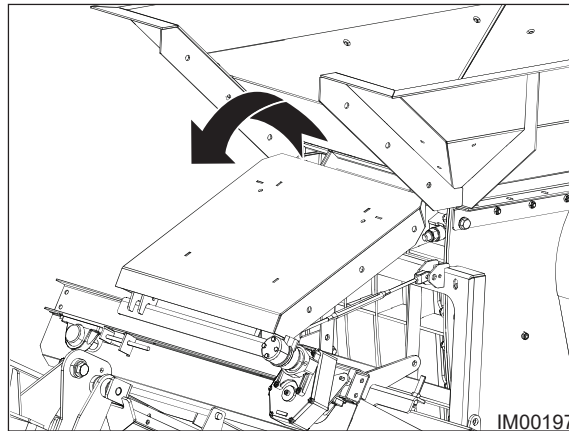

Fig: 10.2 - Crusher Hopper Transport Panel
2. Using suitable lifting equipment, or suitable work platform, with the aid of 2 people, remove the securing bolts down both sides of the hopper transport panel and carefully lower down into the transport position (Fig: 10.2).